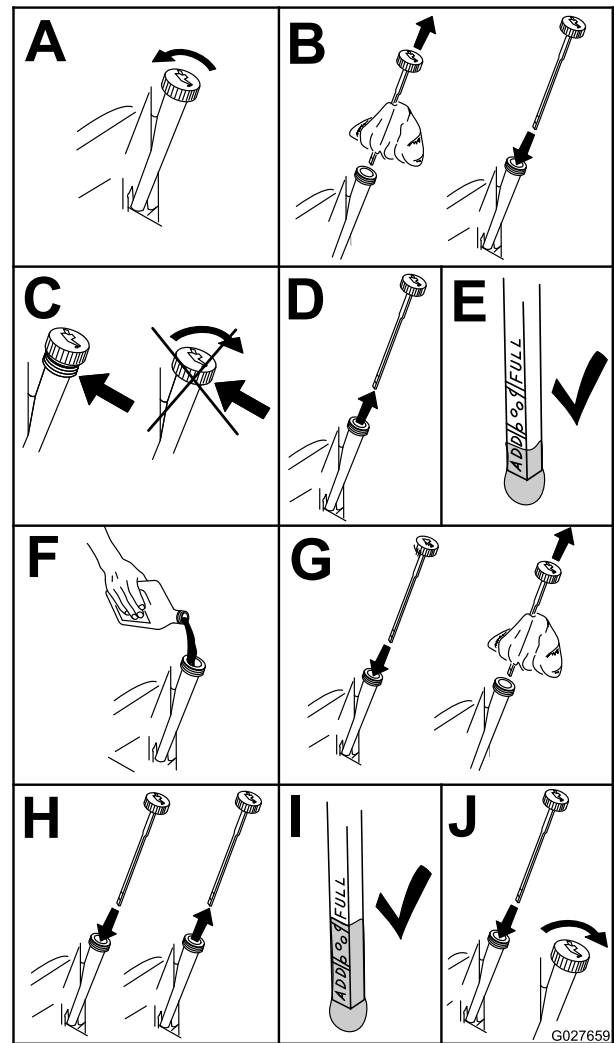

Figure 50
2. Stop the engine, remove the key, and wait for all moving parts to stop before leaving the operating position (Figure 50).